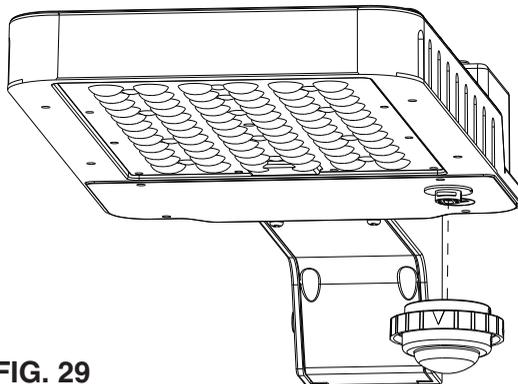

FIG. 29
3. Plug the c-Max™ control node into the USB-C receptacle (see FIG. 29).